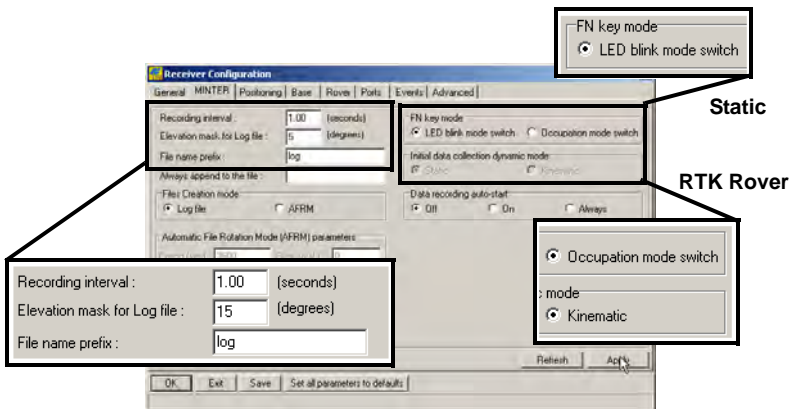

Figure 3-33. Configure Receiver’s MINTER for Data Recording
8. Click the **Positioning** tab and set the **Elevation mask** to 15 (Figure 3-33), then click **Apply**.